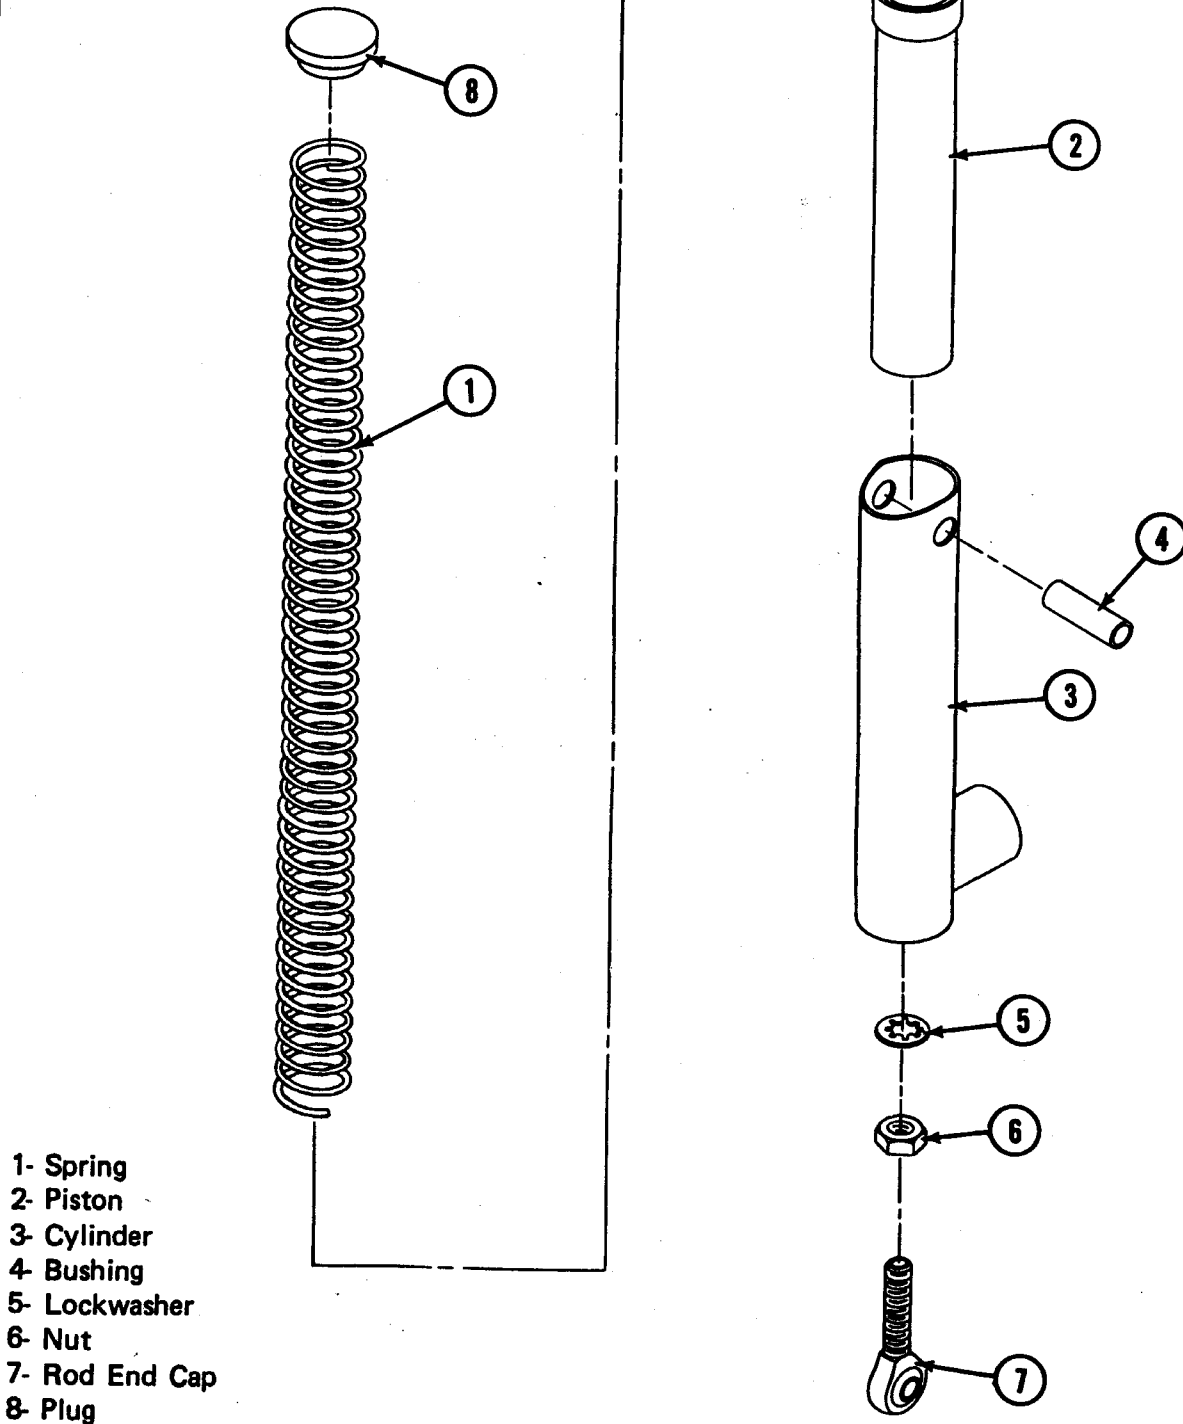
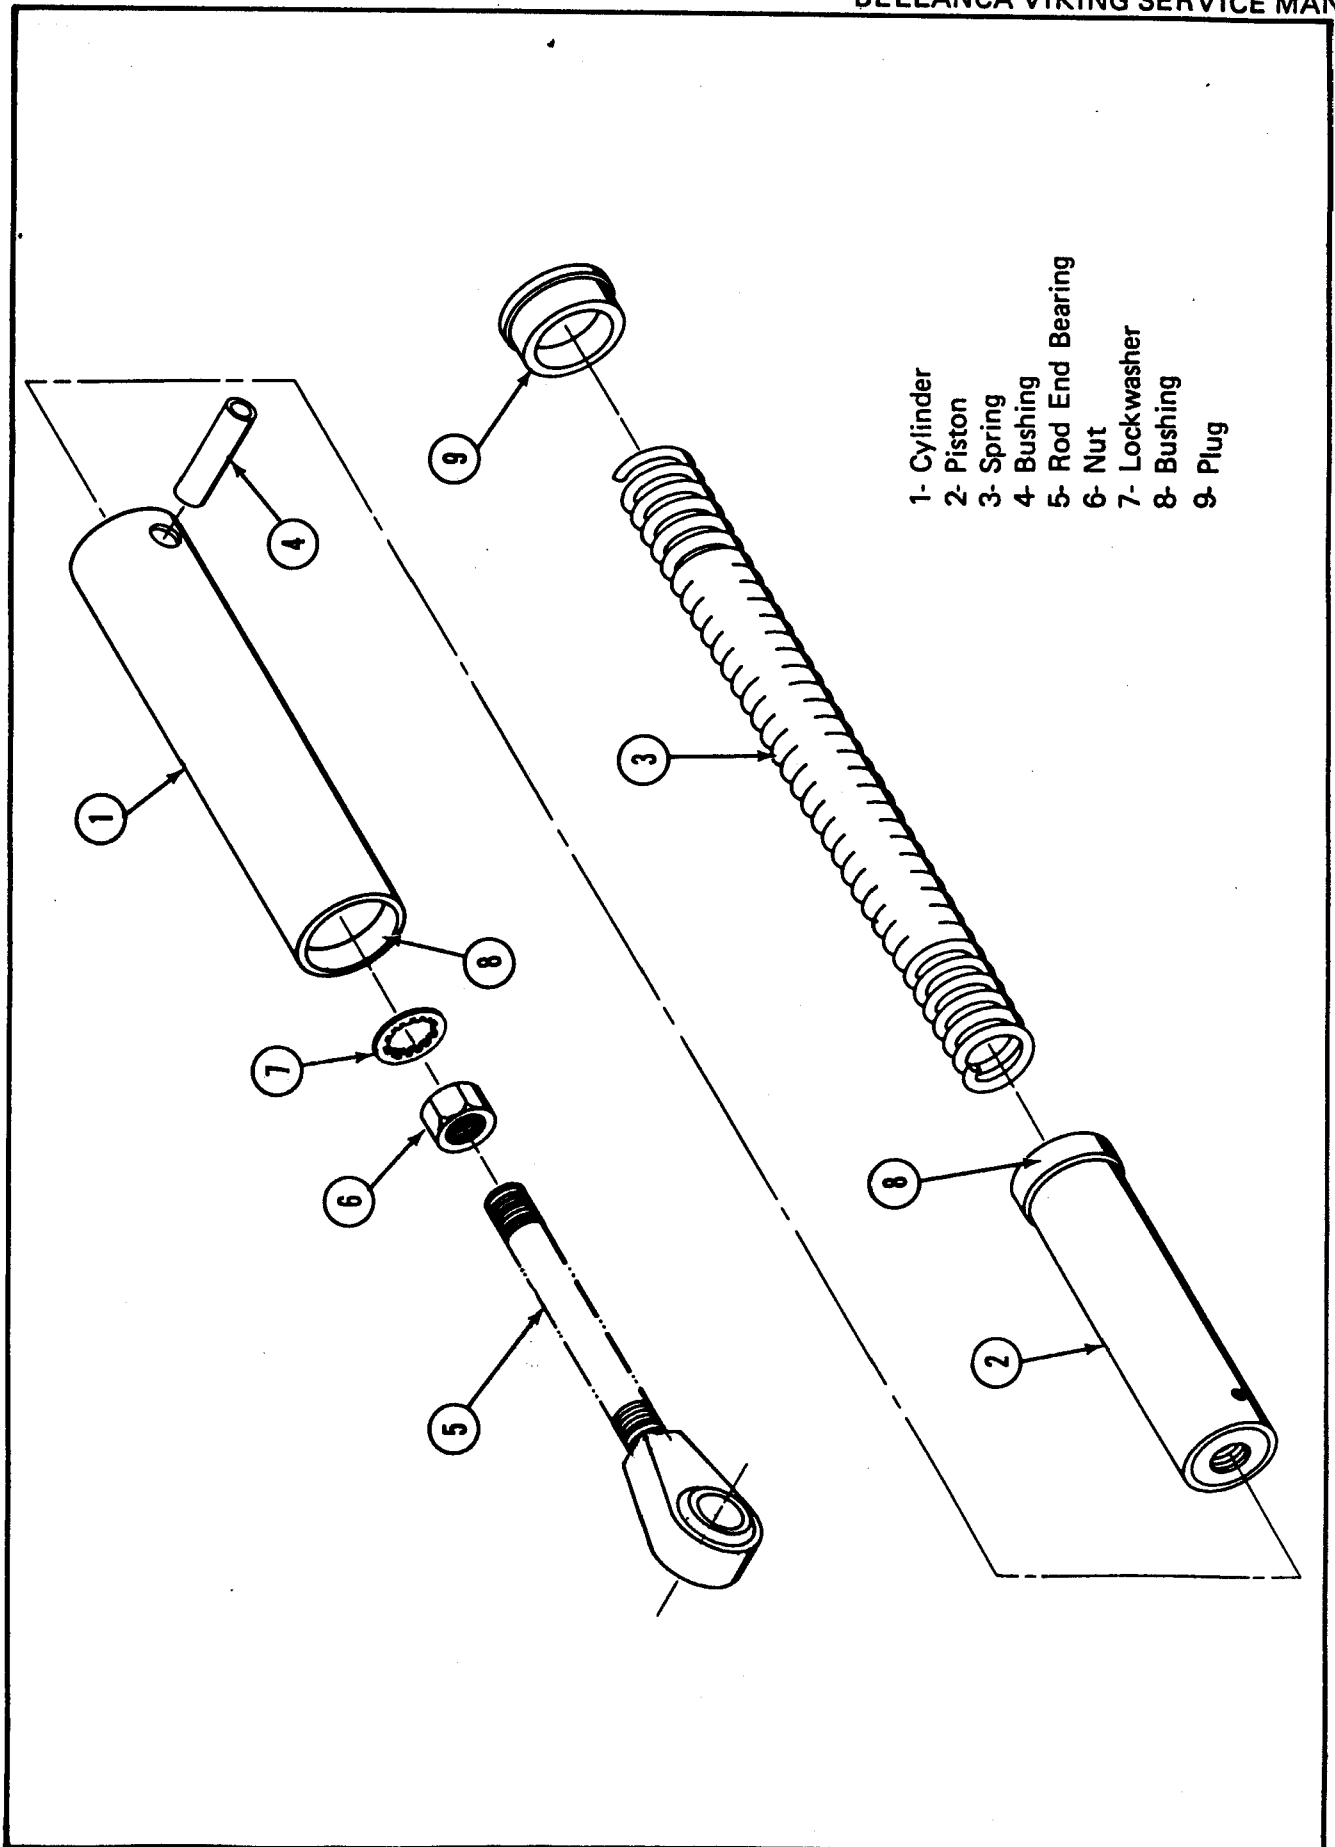

Figure 7-24. Main Gear Extension Spring Assembly, Aircraft Serial Numbers 78-30905 and below, and 32-15, 31004 and above.
Figure 7-25. Main Gear Extension Spring Assembly, Aircraft Serial Numbers 79-30906 and above.
a. On Aircraft Serial Numbers 78-30905 and below, and 32-15, 31004 and above, refer to Figure 7-24 and perform the following procedures to disassemble and repair or replace components of the extension spring assembly.
(1) Remove the plug (8).
(2) Remove the bushing (4) and spring (1).
(3) Loosen the nut (6) and remove the rod end bearing (7) from the piston (2). Remove the lockwasher (5).
(4) Remove the piston (2) from the cylinder (3).
(5) Clean and inspect all component parts for damage or excessive wear, and replace parts as necessary.
(6) Use a new lockwasher and reassemble the extension spring assembly by reversing disassembly procedures.
b. On Aircraft Serial Numbers 79-30906 and above, refer to Figure 7-25 and perform the following procedures to disassemble and repair or replace components of the extension spring assembly.
(1) Remove the plug (9).
(2) Remove the bushing (4) and spring (3).
(3) Loosen the nut (6) and remove the rod end bearing (5) from the piston (2). Remove the lockwasher (7).
(4) Remove the piston (2) from the cylinder (1).